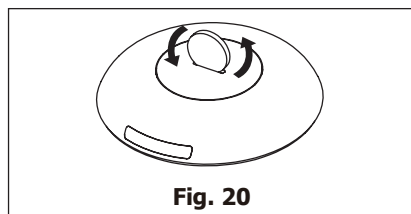

Fig. 20
- 2.** Use a coin or something like that to rotate the back cover anti-clockwise to open it. (Fig. 20 & 21)